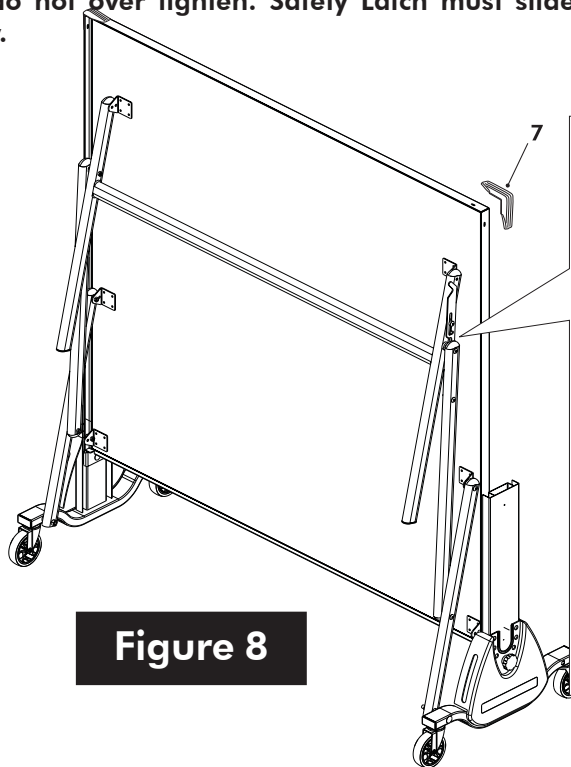

Figure 8
14. Attach Safety Latch (#31) to outside of Leg (#1) on the right side of table using one screw (#28), one step spacer (#29), one spacer (#30) and one lock nut (#6). See Figure 8. **Note: Safety Latch (#31) should hang behind Right Linkage (#21) once attached. Tighten bolt tight but, do not over tighten. Safety Latch must slide freely.**
15. Attach bottom of Safety Latch (#31) to inside of Right Linkage (#21) using one screw (#27), one spacer (#30) and one lock nut (#6). See Figure 8. **Tighten bolts tight but, do not over tighten. Joint must pivot freely.**
16. Attach corner cap #7 to outside corners of table by snapping into slots. See Figure 8.